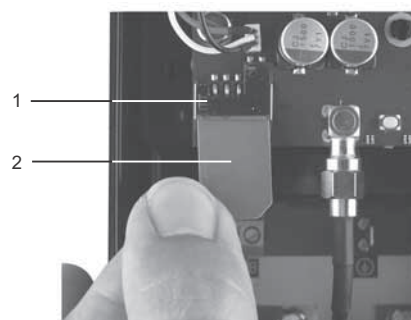

Fig. 11 Inserting the SIM card
3. Insert the SIM card into the CIM 250. See fig. 11.
The connectors on the SIM card must face inwards towards the CIM 250. See fig. 11.